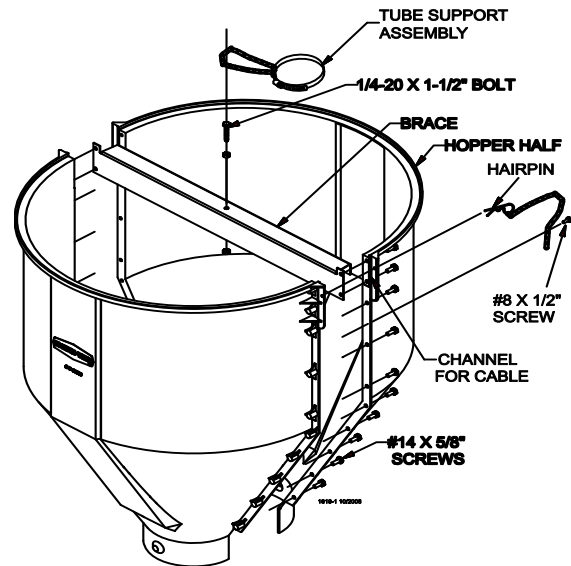

Figure 18.
1. Assemble the 1/4-20 x 1-1/2" bolt to the brace with two 1/4-20 nuts. One nut should be assembled under the brace with the other on top. This bolt is to provide a place for the tube support assembly chain to be hooked, see figure 18.
2. Assemble the 150 lb. hopper halves and brace as shown in Figure 18, using #14 x 5/8" screws (supplied in hardware package).
3. Assemble the #8 x 1/2" screws and chain as shown in Figure 18.